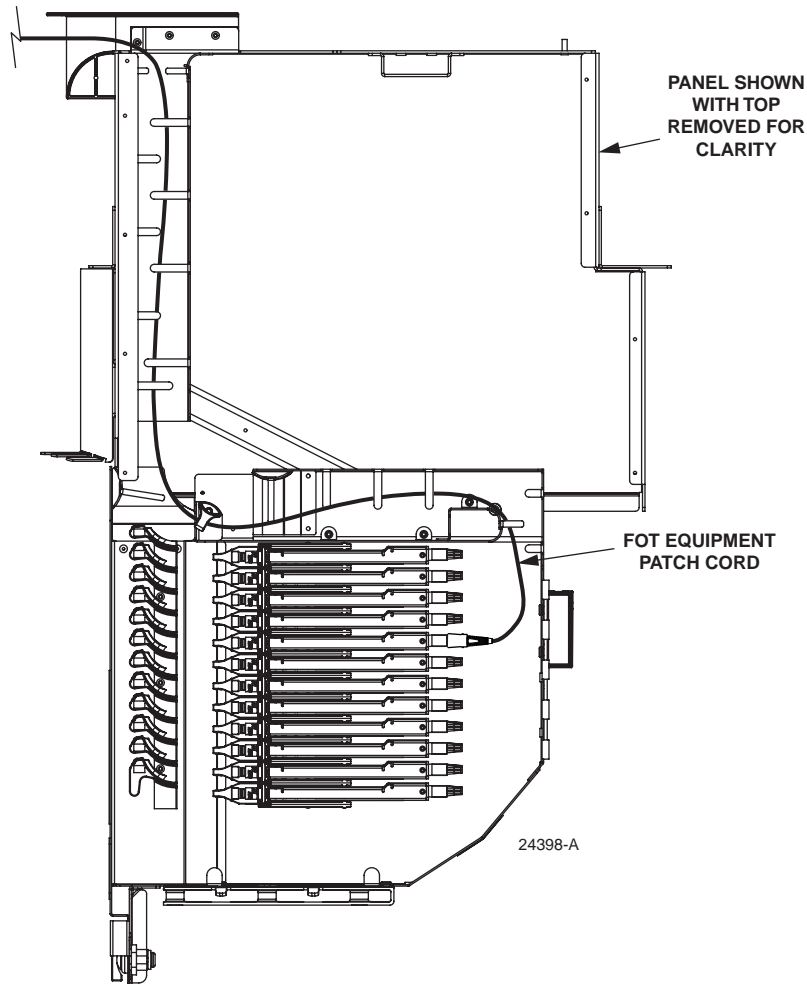

Figure 62. Patch Cord Installed In MicroVAM Chassis - Rear Entry (12-Slot Chassis Shown)
10. Route the patch cord within the drawer as shown in Figure 61 and Figure 62.